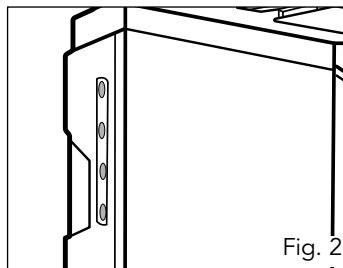

Fig. 2
Pressing the On/Off Button (5) briefly will illuminate the Battery Capacity LED's (9), the number of LED(s) that are illuminated indicate the current charge level of the Li-Po battery (fig. 2).